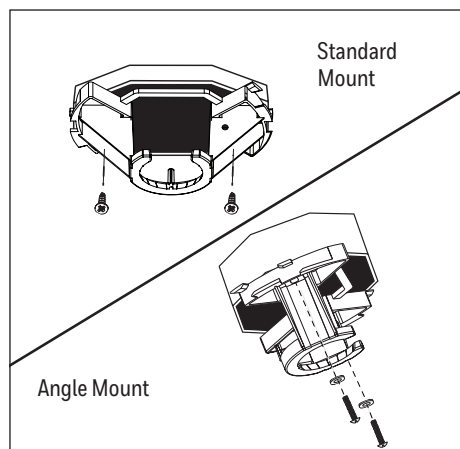

Figure 2.2
2. Install the mounting bracket to the outlet box (sold separately) using the screws and washers provided with the outlet box. **WARNING:** To reduce the risk of fire, electric shock, or personal injury, mount to the outlet box marked "acceptable for fan support". (Figure 2.2).